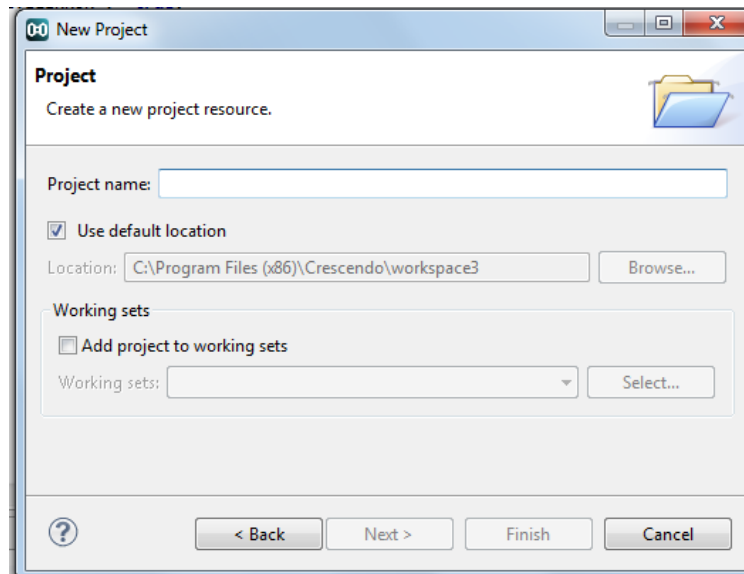

Figure 5.8: Create project dialog.
- Click the button “*Finish*” (see Figure 5.8).